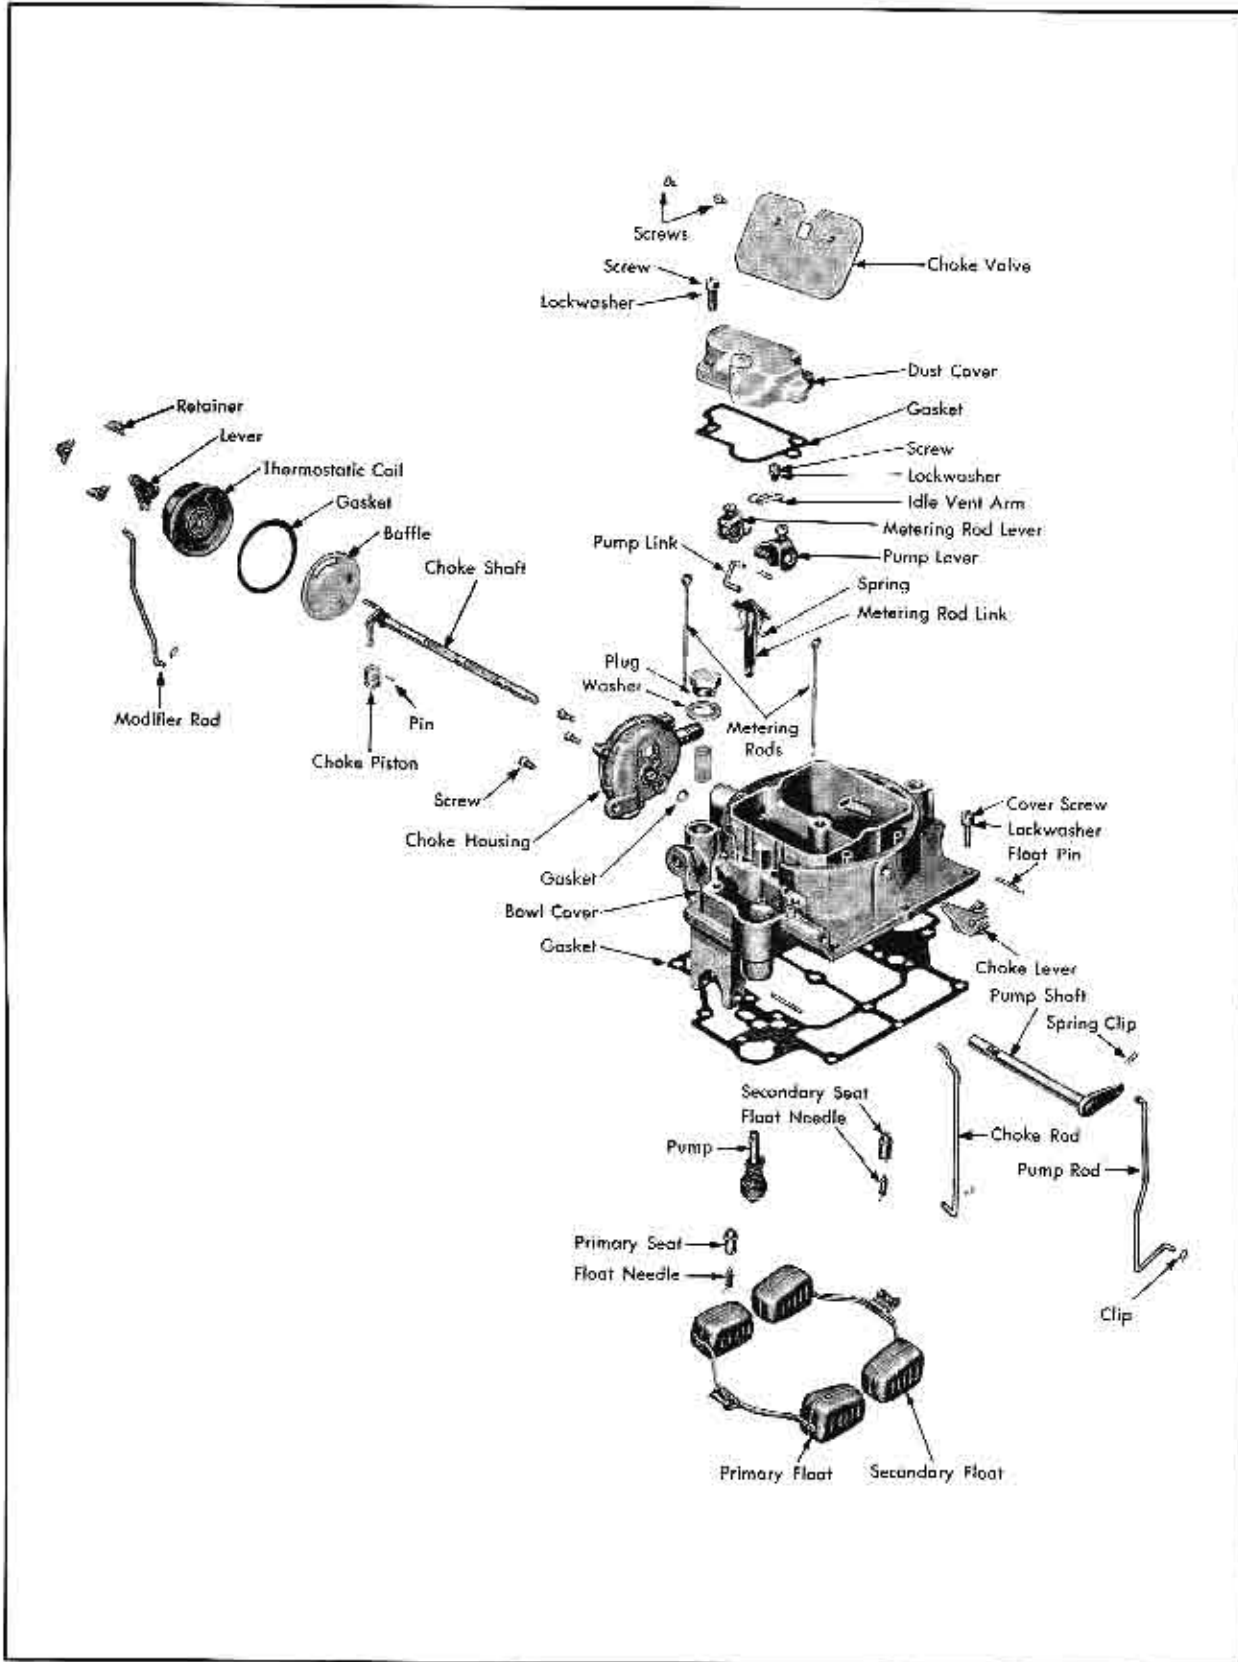

Fig. 12-57 Bowl Cover Assembly Disassembled
1. Install gasket on inner side of choke housing. Refer to Fig. 12-57.
1. Assemble metering rod spring into upper hole of metering rod carrier, and insert into slot within dust cover boss. Refer to Fig. 12-57.